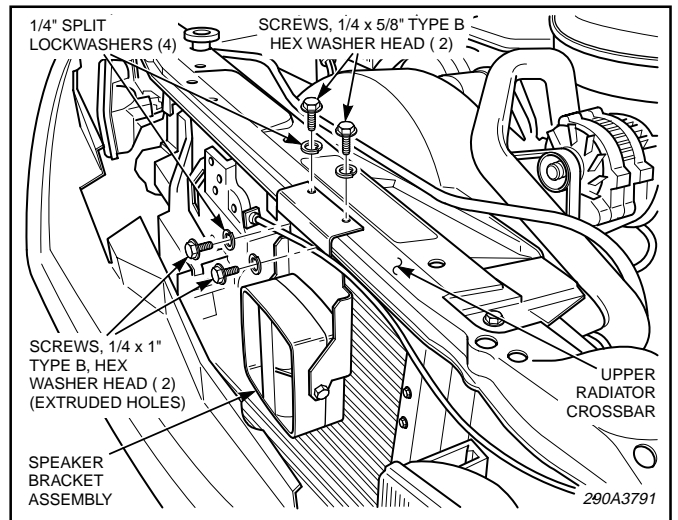

Figure 3.
4. See figure 3. Locate the upper radiator crossbar. On the driver side of the vehicle, locate the two extruded holes on the crossbar's lower front side. Align the two holes on the front of the speaker mounting bracket assembly with the two extruded holes on the crossbar. Using the two 1/4" x 1" screws, temporarily secure the speaker bracket assembly to the crossbar. Using the speaker bracket assembly as a template, center punch two drill position marks on the top of the crossbar. Remove the 1/4" x 1" screws and set the assembly aside.
6. Secure the speaker bracket assembly to the crossbar using two 1/4" x 1" screws, two 1/4" x 5/8" screws and four 1/4" split lockwashers as shown in figure 3.